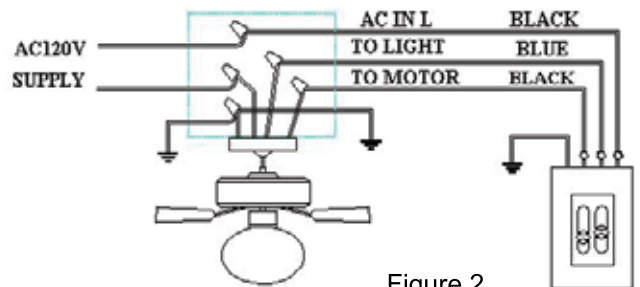

Figure 2
3. Make wire connections and secure with wire nuts supplied refer to figure 2.